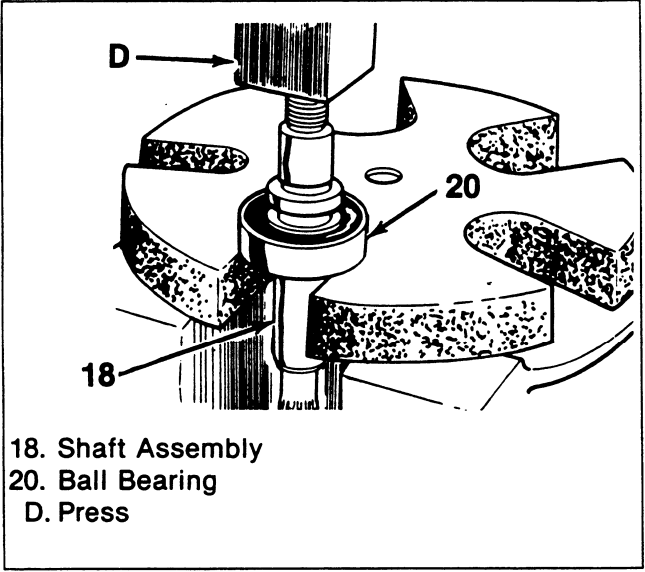

Figure 25. Installing Shaft into Bearing
3. Press the shaft assembly (18) into the ball bearing (20) (figure 25).